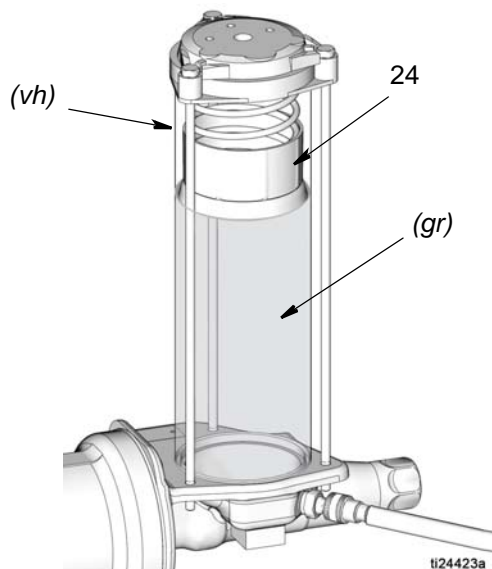

FIG. 5
3. Slowly dispense grease from the fill pump into the reservoir until the grease in the reservoir lifts the follower plate (24) above the reservoir vent hole (vh) and grease comes out of the vent hole (vh) and expels the air inside the reservoir (FIG. 5).
NOTE: The vent hole (vh) is located toward the back side of the reservoir and cannot be seen in FIG. 5. The approximate location of the vent hole is identified as *vh* in the illustration.